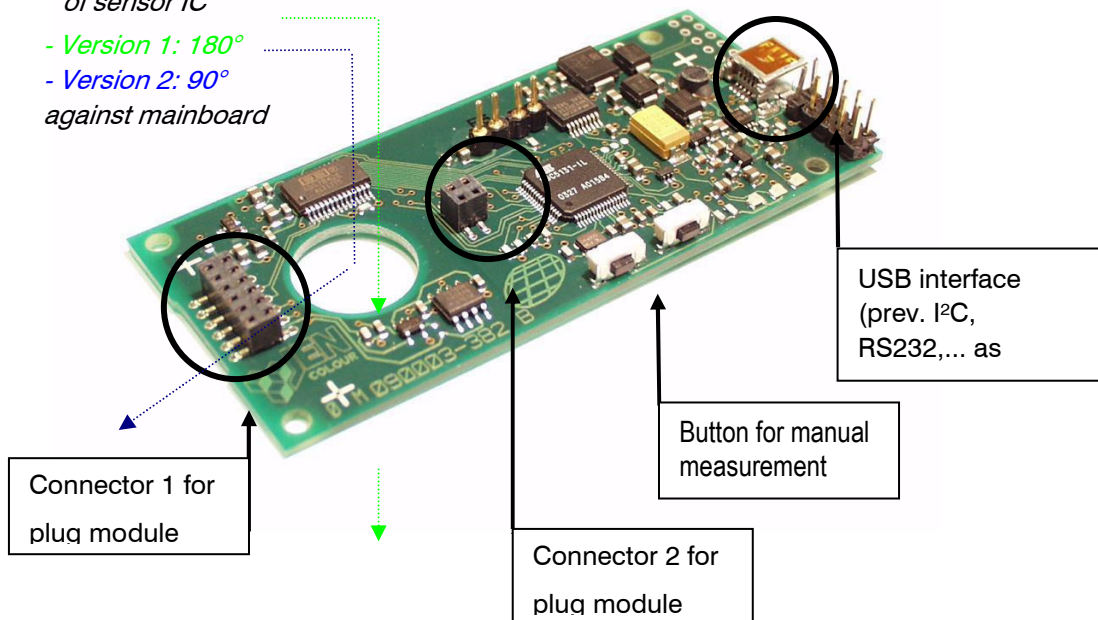

Figure 3, MTCS-ME1 main board
- pushbutton (Button 1 for manual triggering of measurement – see Figure 3)